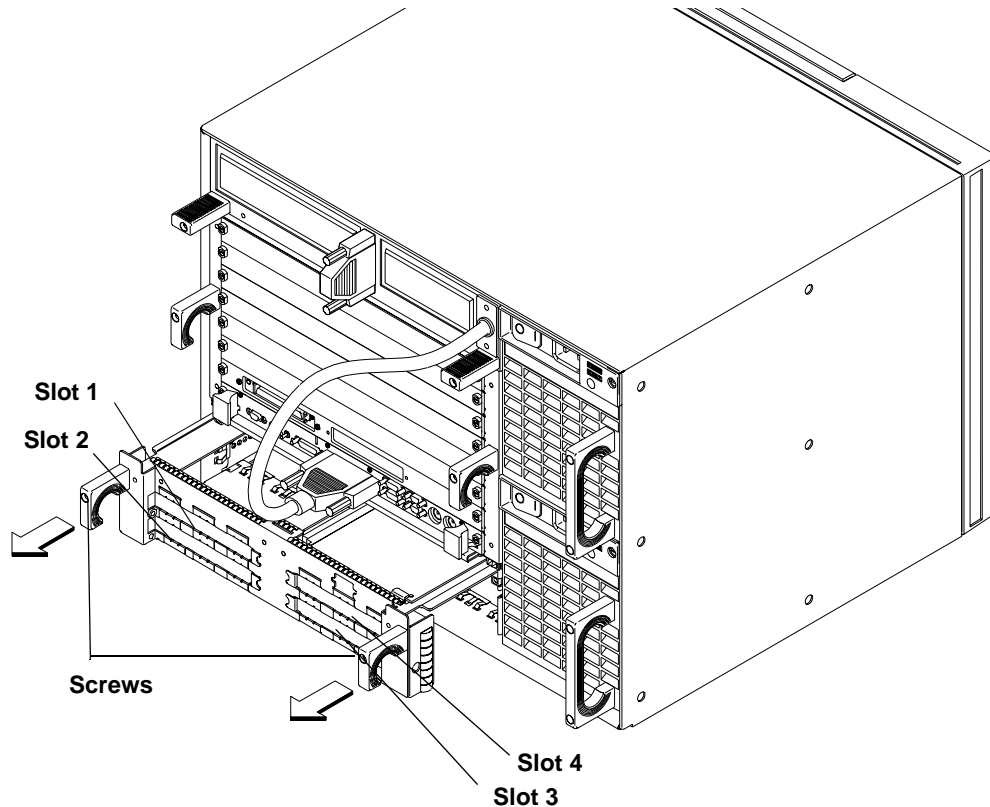

Figure 5-1 Removing the PCI Module
- 4 Grasp the PCI module handles and pull the PCI module out of the chassis, as shown in Figure 5-1.